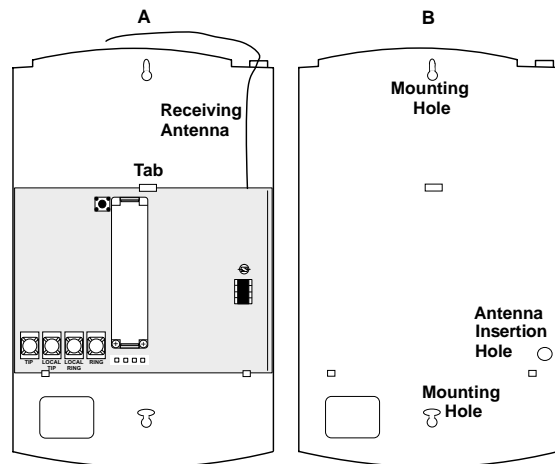

Figure 3. Removing the Circuit Board to Mark Mounting and Antenna Holes
1. Remove the circuit board from the plastic housing by pushing up on the tab and pulling the board outward (see A in Figure 3). Place the board in the cover.
2. Mark the mounting holes and the antenna insertion hole (see B in Figure 3).